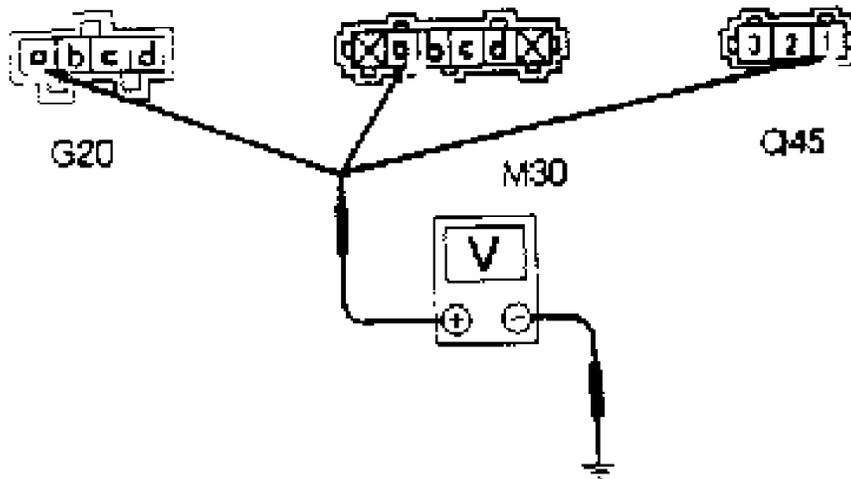

Fig. 1: Airflow Meter Terminal ID
1) Ensure no dust or foreign material exists in hot wire air passage. Fold back airflow meter harness connector boot. Turn ignition on. Connect negative lead of voltmeter to ground. Using positive lead, backprobe airflow meter terminal No. 1 on Q45 or terminal "a" on G20 and M30. See Fig. 1 to 3. Voltmeter should read as specified. See AIRFLOW METER VOLTAGE SPECIFICATIONS table.